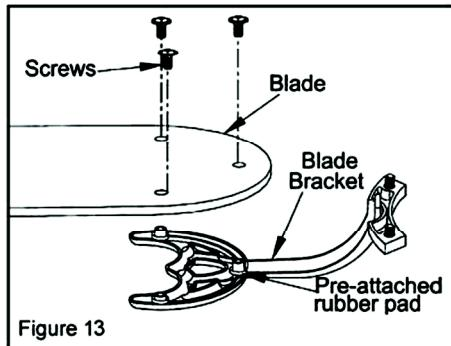

Figure 13
1. Attach blade to blade bracket using the screws as shown in Figure 13. Please note that the rubber washers are pre-attached to the blade bracket. Start a screw into the bracket. Repeat for the two remaining screws.